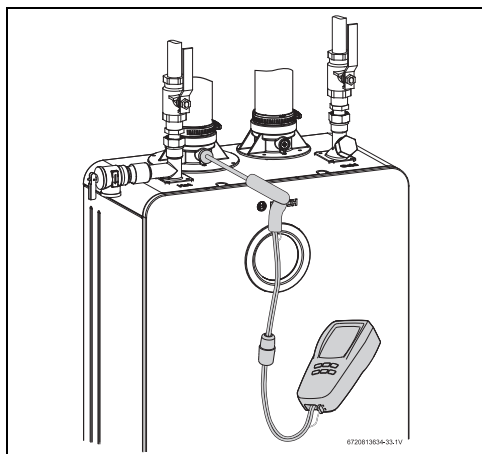

Fig. 62 Measuring port
- Remove the screw from the flue adaptor on the left side of the appliance, as seen in fig. 62.